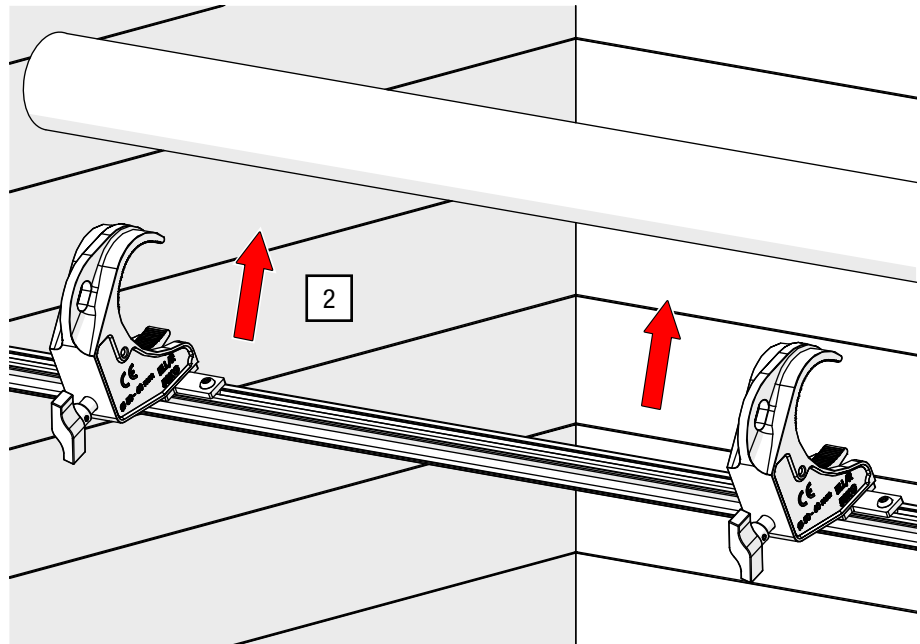

Fig. 45: G-CLAMP direct – Position on pipe
2. Open the G-CLAMP and position it on the on-site support structure (see Fig. 45).